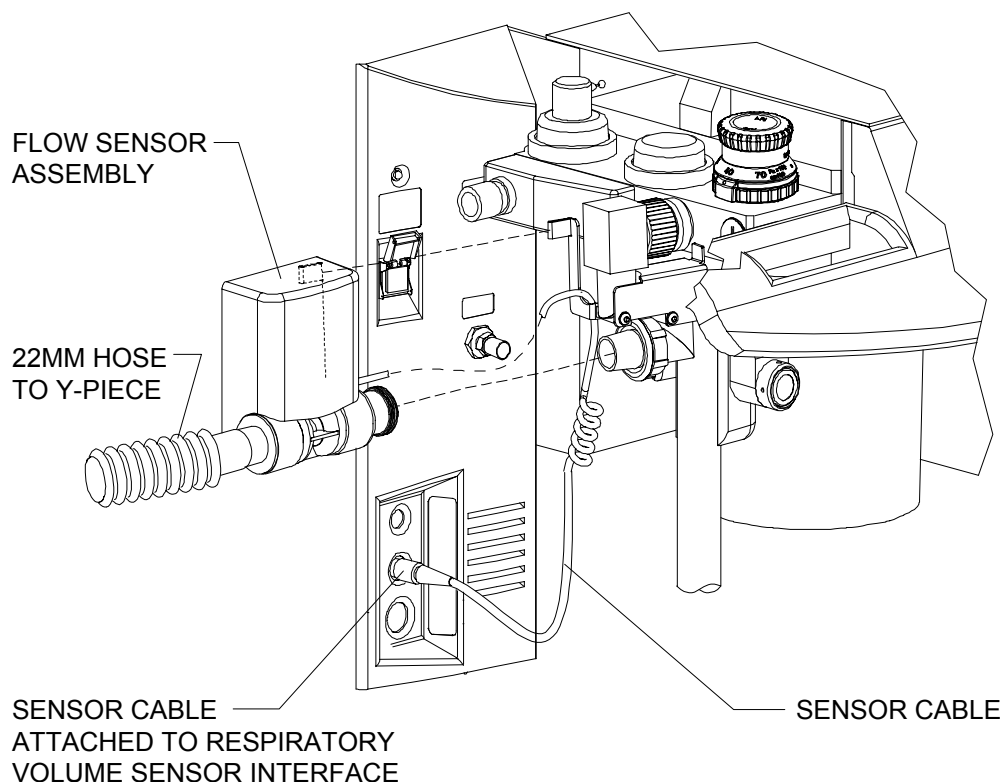

Figure 10-14. Installing the Flow Sensor
10. Align the tab on the mounting adapter with the corresponding slot in the side of the flow sensor, and connect the flow sensor assembly to the mounting adapter. Tighten the retaining ring (hand-tighten only). Refer to Figure 10-14 on page 10-21.
3. Align the tab on the mounting adapter with the corresponding slot in the side of the flow sensor, and connect the flow sensor assembly to the mounting adapter. Tighten the retaining ring (hand-tighten only). See Figure 10-14.